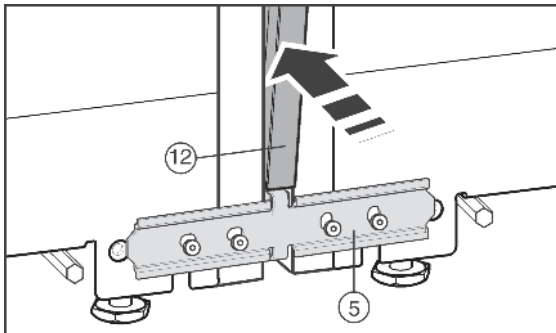

Fig. 27
Before inserting the trim *Fig. 27 (12)* squeeze the two fillets together along the entire length. The trim can now be inserted more easily into the gap. When pressing in the trim, use a soft cloth to prevent dents on the surface of the trim. Press the trim carefully and evenly into the gap to achieve the best possible fit.
- ▶ On the front press the long trim *Fig. 27 (12)* into the vertical gap. Ensure that the trim rests on the connecting panel *Fig. 27 (5)*.